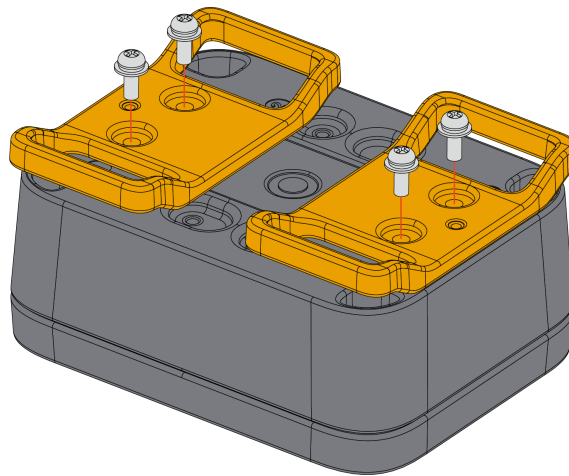

Figure 31: Fixing the belt loop mount on the enclosure
2. Fix the belt loop mount marked with the letter **H** on the WisBlock Unify Enclosure using four (4) pieces of M3*8 mm Head screw with a washer. Place it on fixed positions number **1 to 4** of the enclosure as shown in **Figure 31**.